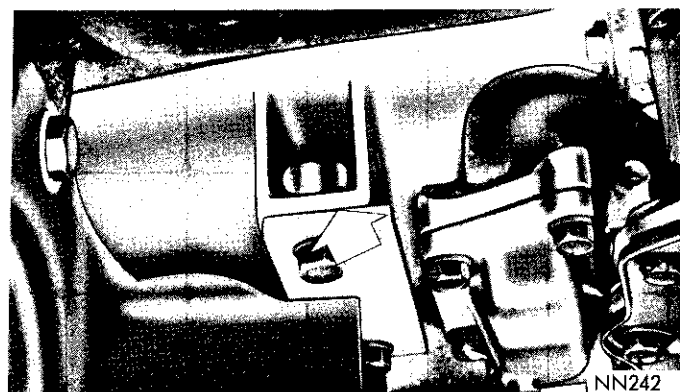

Fig. 8—Shim Location (Front Universal Joint Angle Correction)
(6) Observe position of bubble in spirit level and compare the position with that shown on Chart (Fig. 12) for front joint angle. A normal joint angle will cause bubble to position itself within the acceptable range. If bubble is found to be slightly forward of the acceptable tolerance range, this means that the angle is actually smaller than that specified and does not need correcting. If bubble in spirit level is found to be rearward of the acceptable range, the angle is too large, and must be corrected. To reduce front universal joint angle, install a flat shim between the transmission extension housing and rear engine mount (Fig. 8). Flat shims 1/8 inch in thickness are required to move the bubble in spirit level one graduation.
(7) To install shim, loosen bolts in rear mount to